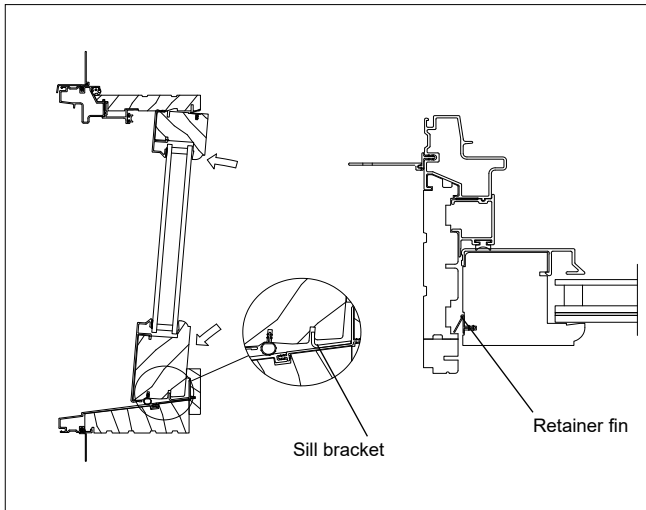

Figure 4
- Place the bottom of the sash into the frame and tip up into place until sash is seated against the exterior stop and sash retainer fin has snapped into place. See figure 4.